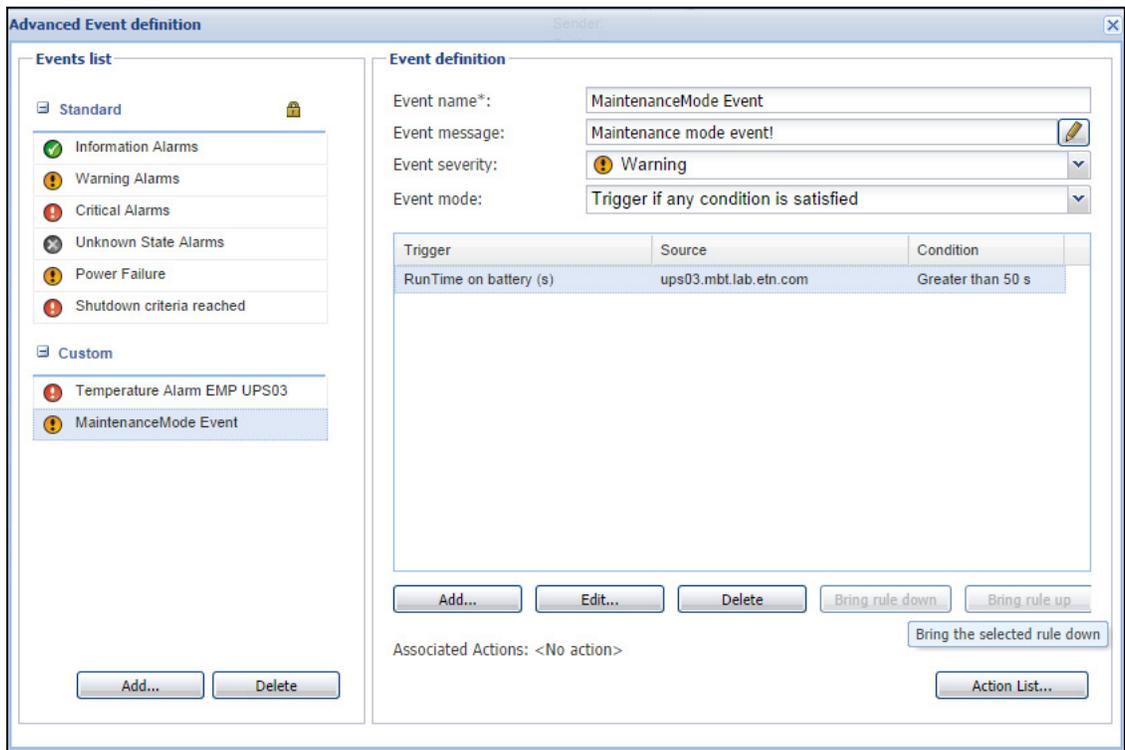
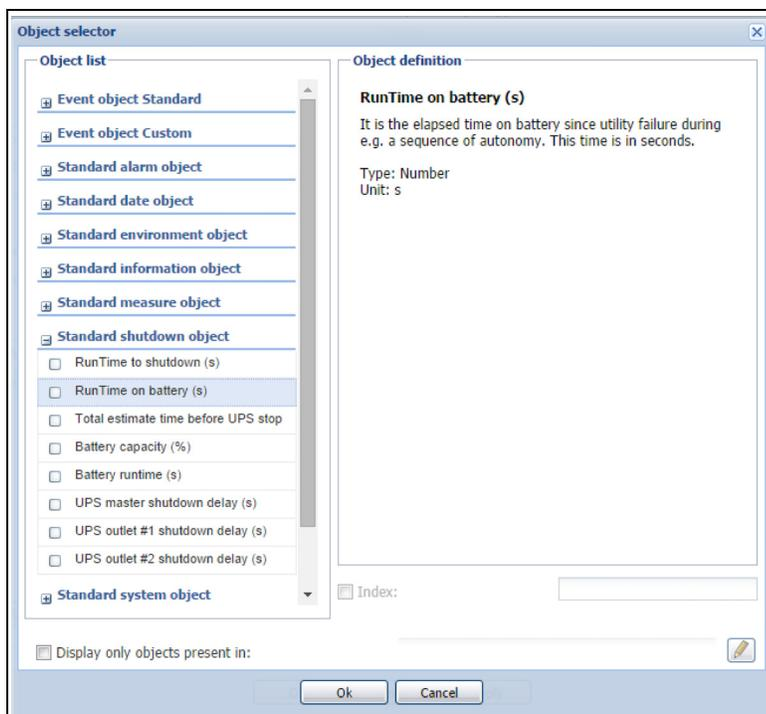

Figure 169. Advanced Event Definition
Figure 170. Object Runtime on Battery
3. Add a custom event (see Figure 169 and Figure 170).